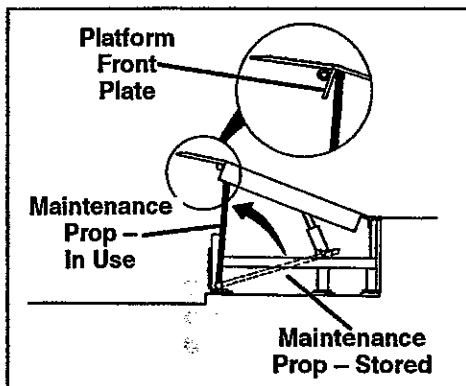

Fig. 19. Maintenance Prop In Position
9. Use a fork truck (or other method) to raise dock leveler platform to a height that will allow use of the maintenance prop. The maintenance prop is accessible when the platform is raised. The top of the prop should be positioned directly behind the front header plate of the platform. See Figure 19.